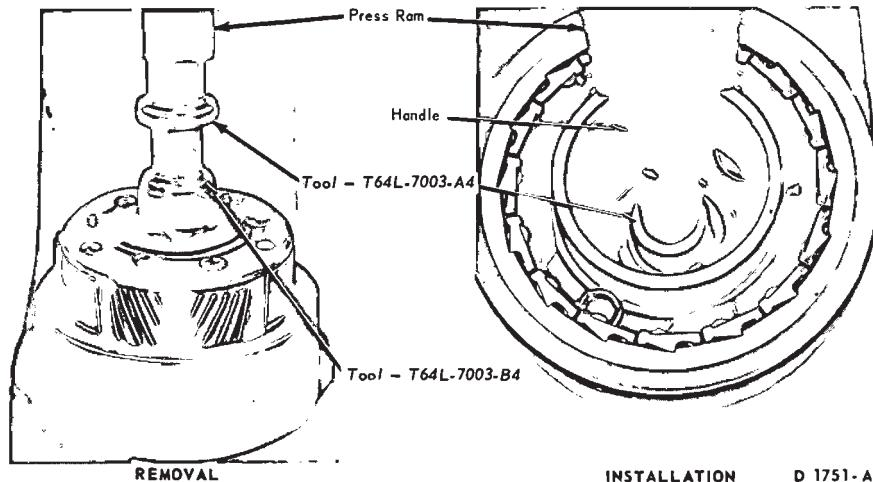

FIG. 28—Replacing Rear Brake Drum Support Bushing
1. If the rear brake drum support bushing is to be replaced, press the bushing from the support as shown in Fig. 28.
2. Press a new bushing into the brake drum support with the tool shown in Fig. 28.